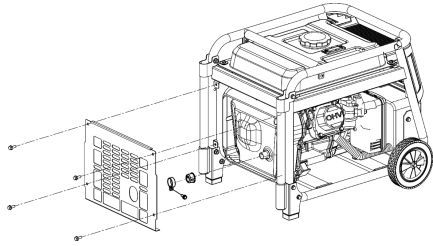

Figure 15 Disassemble spark arrestor
7.5 Spark Arrestor repair, see Figure 15.